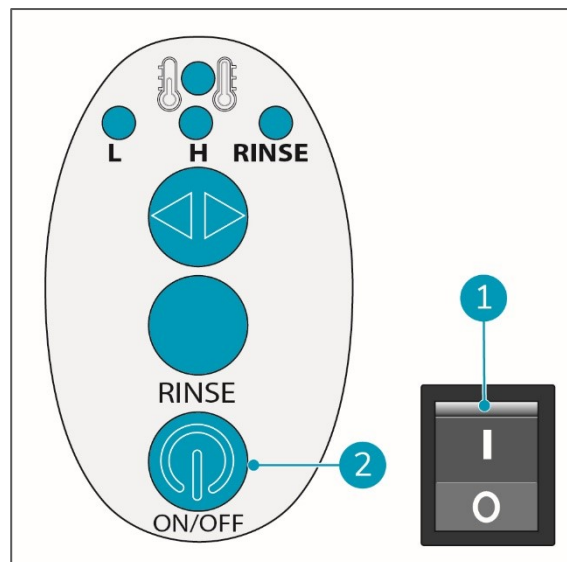

Figure 16
1. Turn off the steam via the ON/OFF button (fig 16, pos 2).
2. Turn off the i-gum® via the main power switch (fig 16, pos 1).